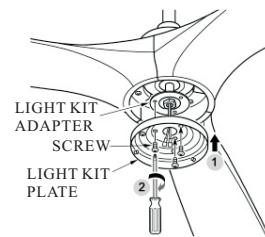

FIG.13
2. Gently pull the wire through light kit plate. Align the three holes on light kit plate with light kit adapter. Then, tighten back the screws removed previously.(See fig.13)